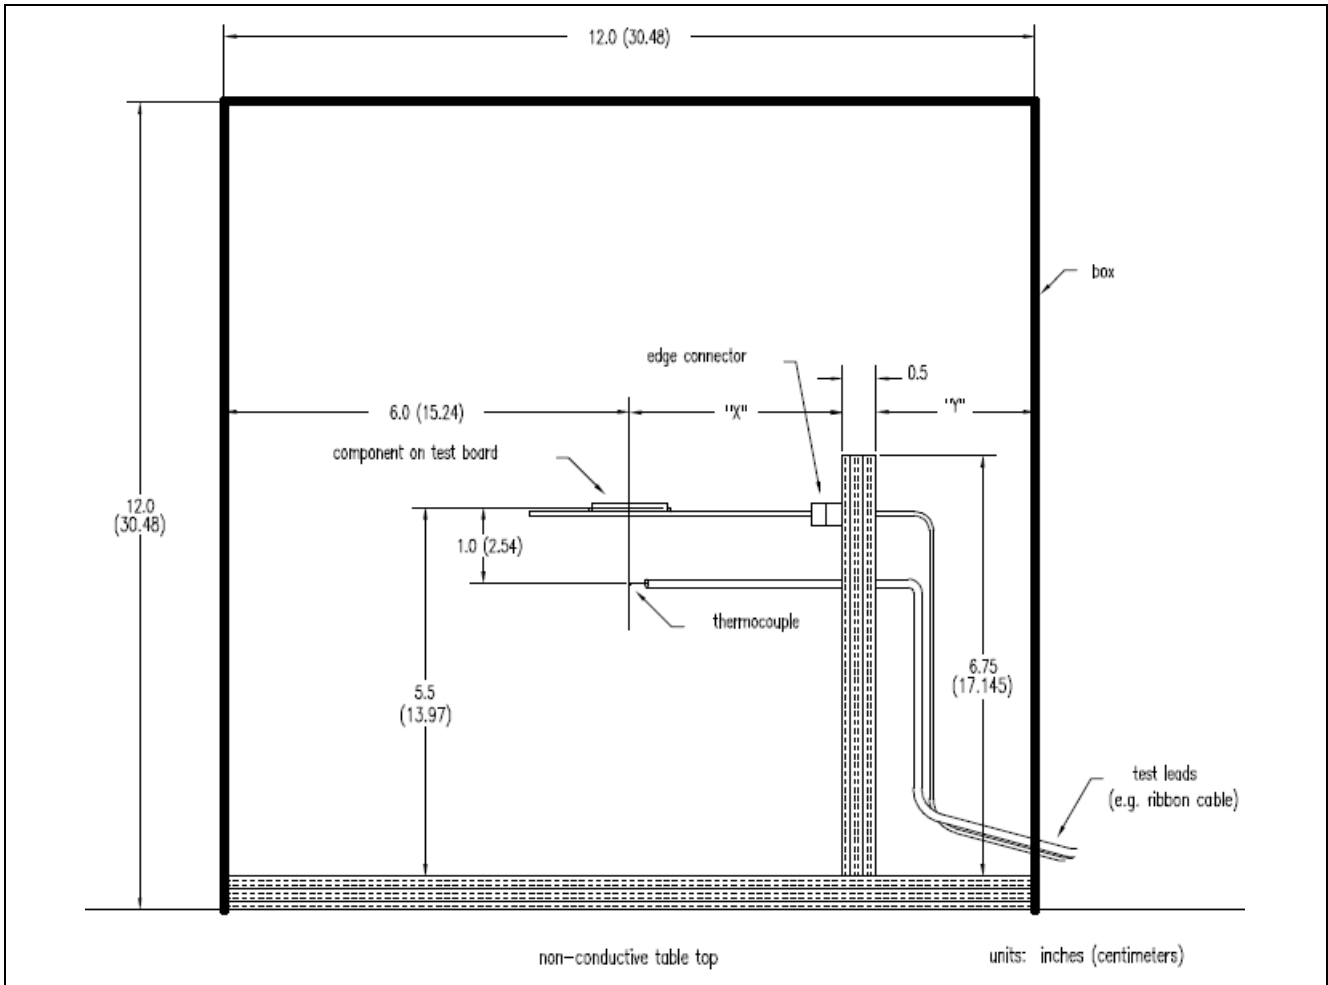

Figure 2-1 Ta measurement position (from the EIA/JEDEC 51-2 Standard)
- Ta (ambient temperature): Ta is the temperature at a place that is not affected by heat sources and is based on measurement methods stipulated by JEDEC (Figure 2-1 and Figure 2-2). See the EIA/JEDEC Standard 51-2 for details. Also see the product and package information that Renesas provides on its website.